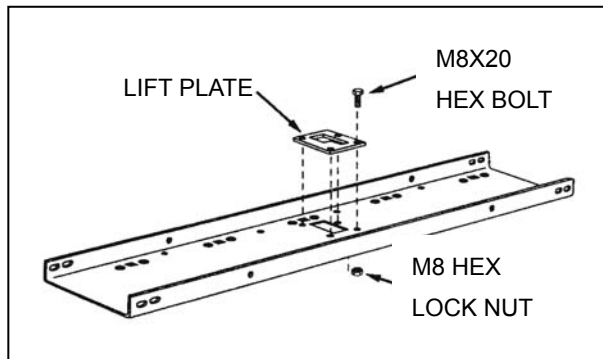

FIGURE 1
1. Assemble the lift plate to the top of the tine shield using four M8x20 hex bolts and M8 hex lock nuts as shown in figure 1. Tighten.